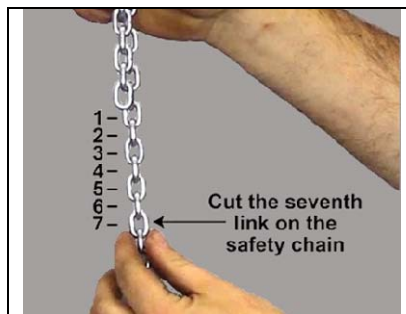

Figure 4-13
- Step 26. Count down seven links from the end of the load chain. Cut the seventh link so the SDS chain is six links longer than the load chain. (Refer to Figure 4-13)